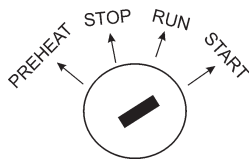

Figure 49. Engine Ignition Switch
9. Turn the ignition key to the “START” position (Figure 49) and listen for the engine to begin cranking. After the engine starts release the ignition key.